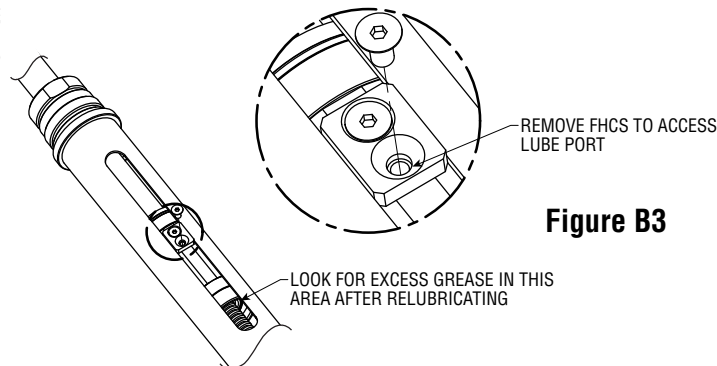

Figure B3
2. For ECPA (Non-Rotating Rod) series cylinders: Fully retract the rod and remove the FHCS in the anti-rotation key (see Figure B3).
3. Insert the tip of a grease gun into the lube port of the piston (see Figure B3 and B4) and fill the piston assembly with the recommended grease.